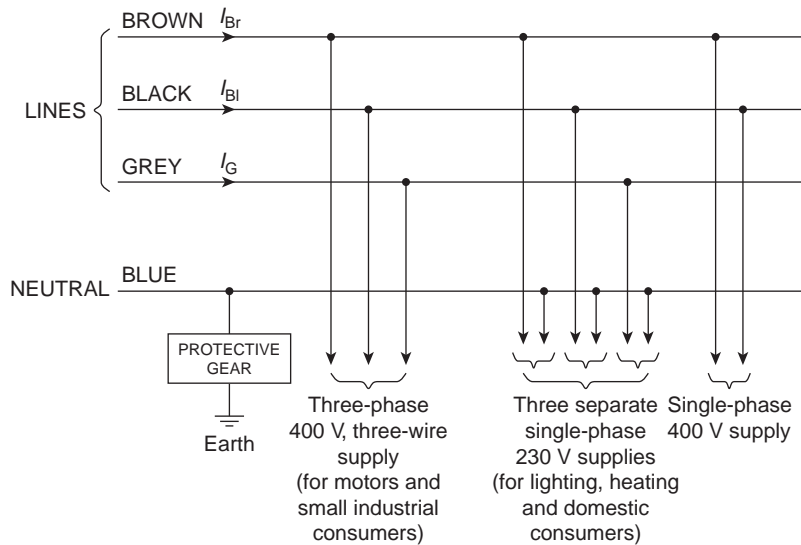

Figure 23.5
Thus, more recent and future UK single-phase installations have the wiring colours **brown, blue and green/yellow stripes**. However, it is important to appreciate that many older single-phase installations will have the wiring colours **red, black and green**. The standard voltage for a single-phase a.c. supply is 230 V. The majority of single-phase supplies are obtained by connection to a three-phase supply (see Fig. 23.5, page 460).
- (vii) The star connection of the three phases of a supply, together with a neutral conductor, allows the use of two voltages – the phase voltage and the line voltage. A four-wire system is also used when the load is not balanced. The standard electricity supply to consumers in the UK is 400/230 V, 50 Hz, three-phase, four-wire alternating current, and a diagram of connections is shown in Fig. 23.5.